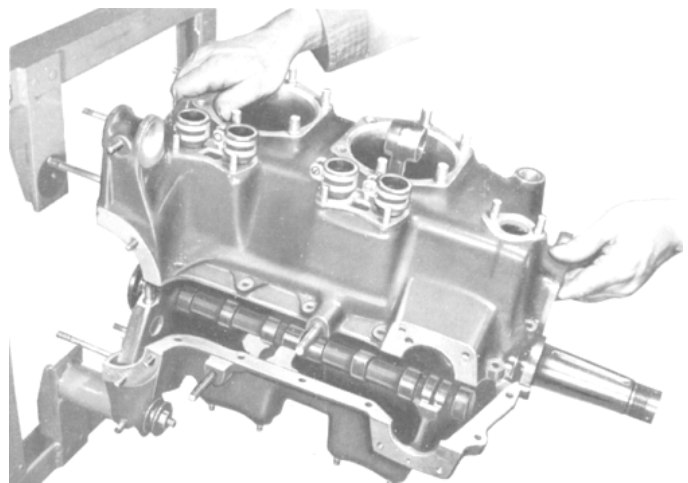

Figure 35 Installing Crankcase 1,3 Side on 2,4 Side.
- 1. Early crankcases for all "C" models are notched at the lower front and upper rear edges of the No. 2, 4 side front main bearing to accept the pins installed in two thrust washers. Obtain two plain thrust washers and two with the short dowels installed at the center. Slide the plain half washers into the 2, 4 side crankcase recess; then place the dowel half washers against the crankshaft thrust flanges, and rotate each complete washer until the short dowel lies in a crankcase notch. (See Figure 35.)